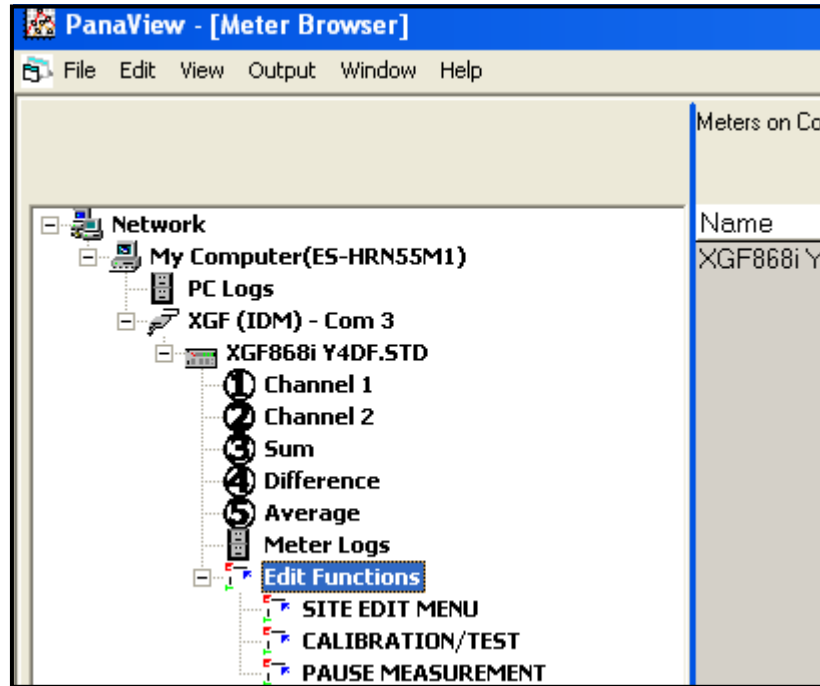

Figure 40: Menus in the *Edit Functions* Option
2. Expand the *Edit Functions* option. The window now appears similar to that shown in Figure 40 on page 78.